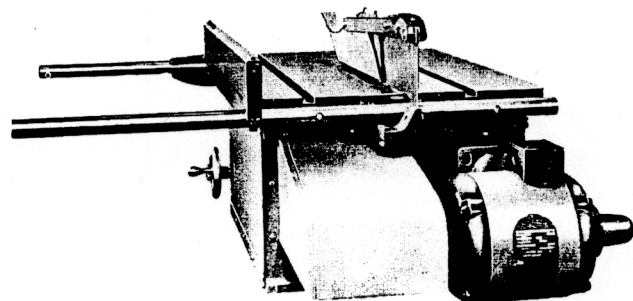

Figure 5
4. Install Belt Guard, see Fig 5.